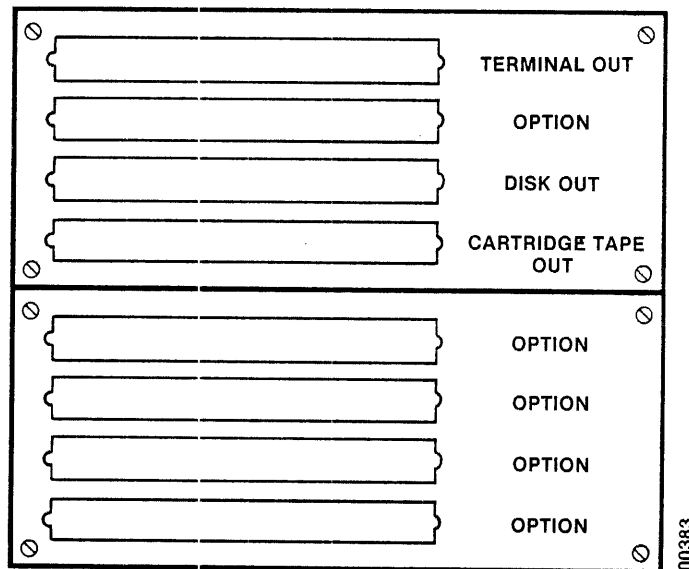

Figure 2-3 Model 21 Processor Module I/O Connector Panel
2.4.1. I/O Connectors: Figures 2-3 and 2-4 identify the 96-pin terminal, disk, tape, SMD, and optional I/O connectors on the two Processor Module I/O connector panels for Models 21 and 31. The two panels are cabled to the I/O and terminal distribution panels on the Disk/Tape and Accessory Modules of the system configuration. Table 2-6 lists the required mating connector cable and sources. Table 2-7 lists the pin assignments of the serial (TTY) I/O connectors. Table 2-8 lists the pin assignments of the parallel printer connectors.